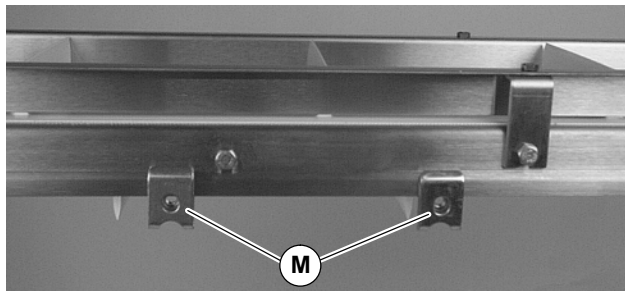

Figure 12
- Attach mounting clips (M of Figure 12) to conveyor.